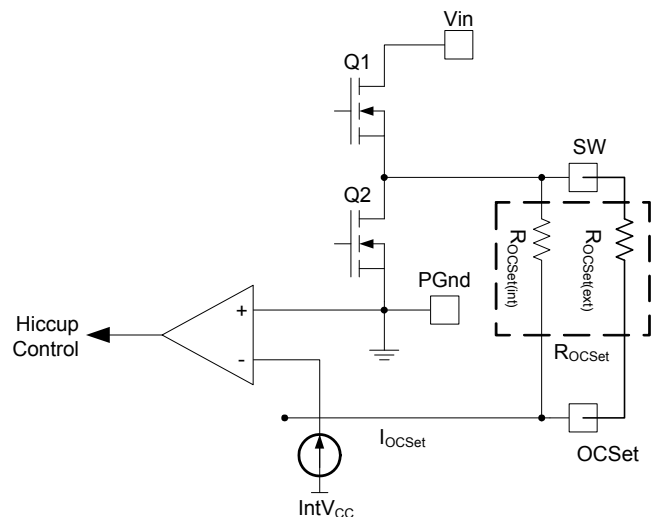

Figure 11: Connection of over-current sensing resistor
The over current protection is performed by sensing current through the $R_{DS(on)}$ of low side MOSFET. This method enhances the converter's efficiency and reduces cost by eliminating a current sense resistor. As shown in Figure 11, an external resistor (R_{OCSet}) is connected between OCSet pin and the switch node (SW) which sets the current limit set point.